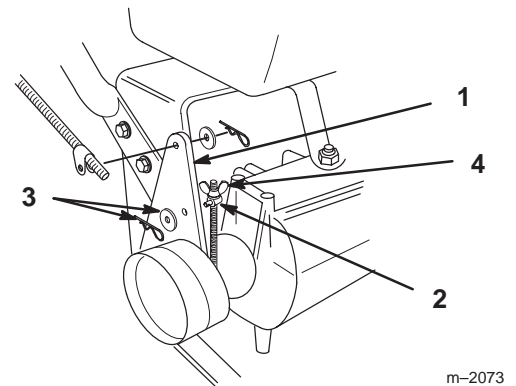

Figure 12
- If brake adjustment is required, remove hairpin cotter and washer securing brake rod fitting to idler bracket (Fig. 12).
- Adjust wing nut up or down on brake rod and secure fitting to idler bracket (Fig. 12). Check adjustment and readjust if necessary.